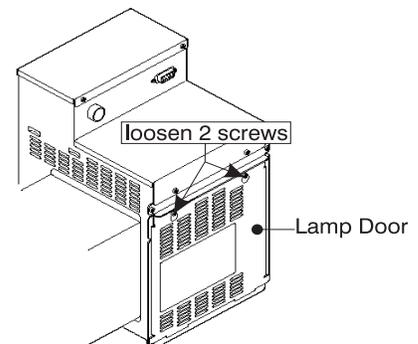

Figure 4.2. Loosen lamp door screws
- 4) Loosen two screws at the top of the lamp door. Lift the lamp door until the two screws fit into the larger part of the opening and pull out to remove. (Figure 4.2.)